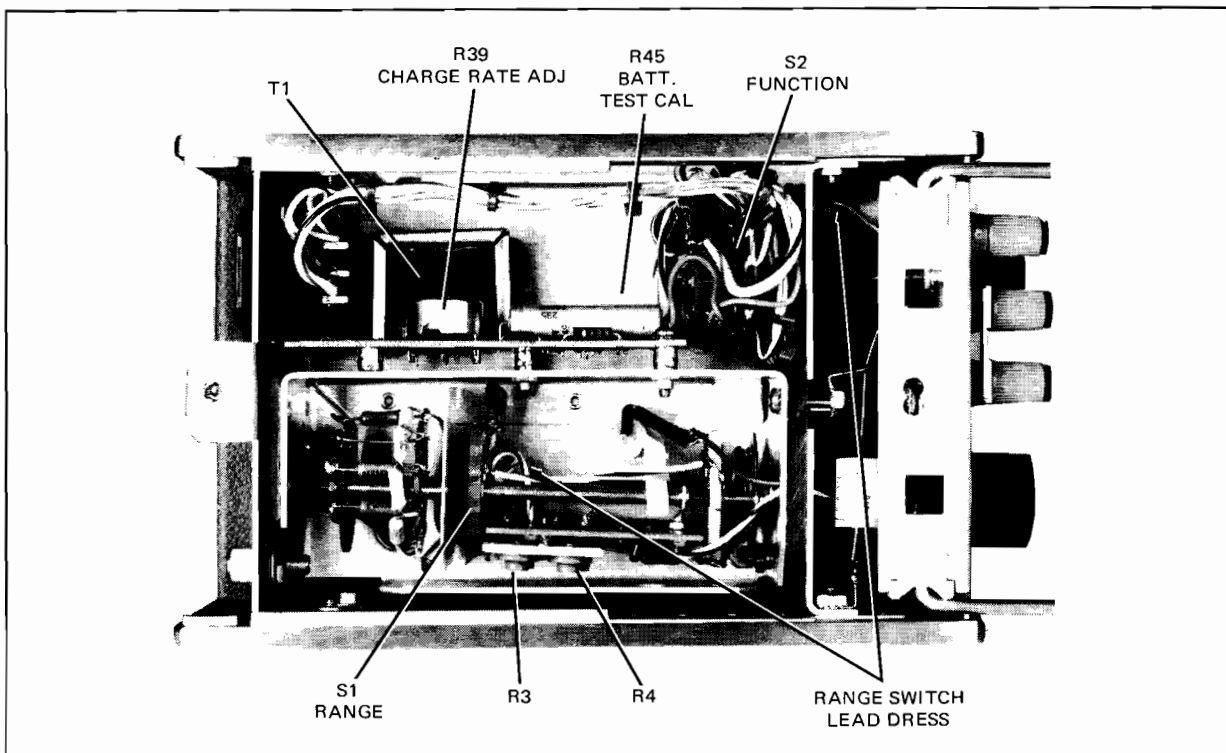

Figure 5-2. Model 403B Bottom View.
After repair the leads should be placed in the same position. Lead dress (position) will have the most affect at frequencies above 100 kHz on the 100 V range. Refer to Figure 5-2 for appropriate lead position.
b. Connect a Clip-On DC Ammeter (-hp- Model 428A/B) probe around the violet wire connected to battery BT4. Adjust R39 (see Figure 5-2) for an indication of 6.2 mA on the DC Ammeter.